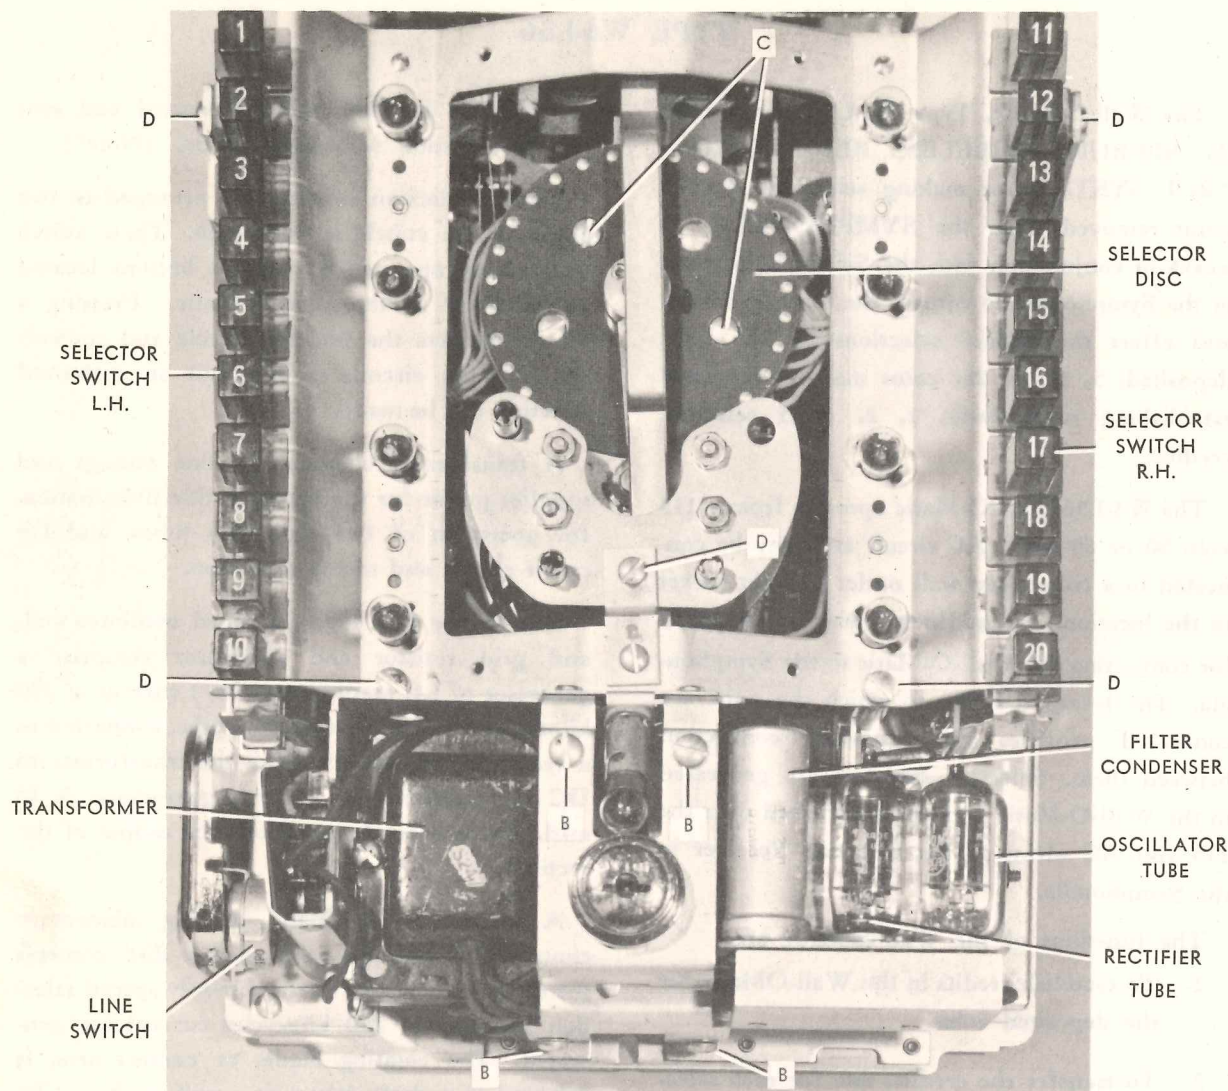

FIG. 9
1. Remove the lock assembly by taking out the four screws marked "B" in Fig. 9.
3. Remove the two screws, holding the selector disc, marked "C" in Fig. 9.
4. Remove the five screws, marked "D" in Fig. 9, holding the reflector plate to which are fastened the selector switches.